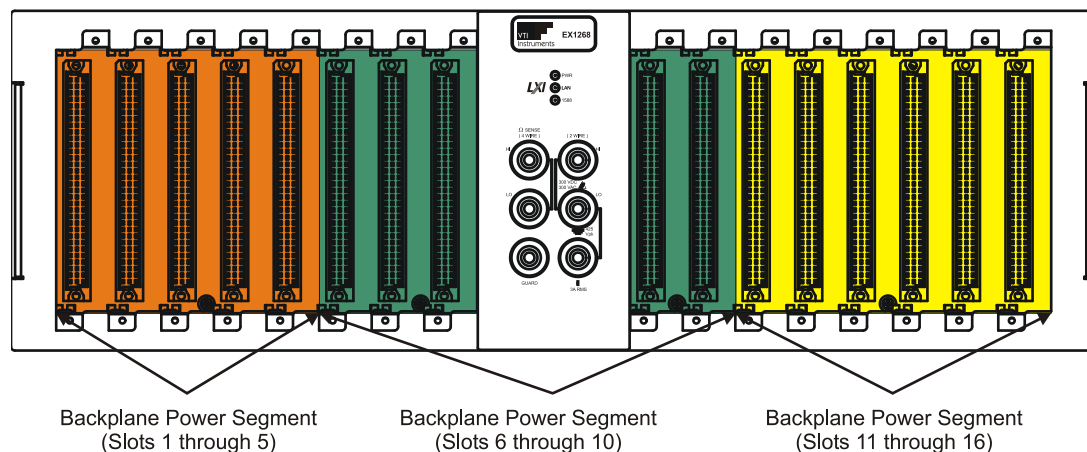

FIGURE B-1: BACKPLANE POWER SEGMENTS IN THE EX12x8
EX12x8 mainframes are powered by four power supplies. Although these are the same power supplies as used in the EX12x2 and EX12x6 mainframes, one power supply is solely responsible for supplying the 3.3 V power while the remaining three supplies provides power to specific slots, or *segments*, of the backplane. The three segments use the following slots: 1 through 5, 6 through 10, and 11 through 16 (see Figure B-1). While the 5 V and 24 V rails are divided into segments, the single power supply that provides the 3.3 V rail does so for all sixteen (16) slots.